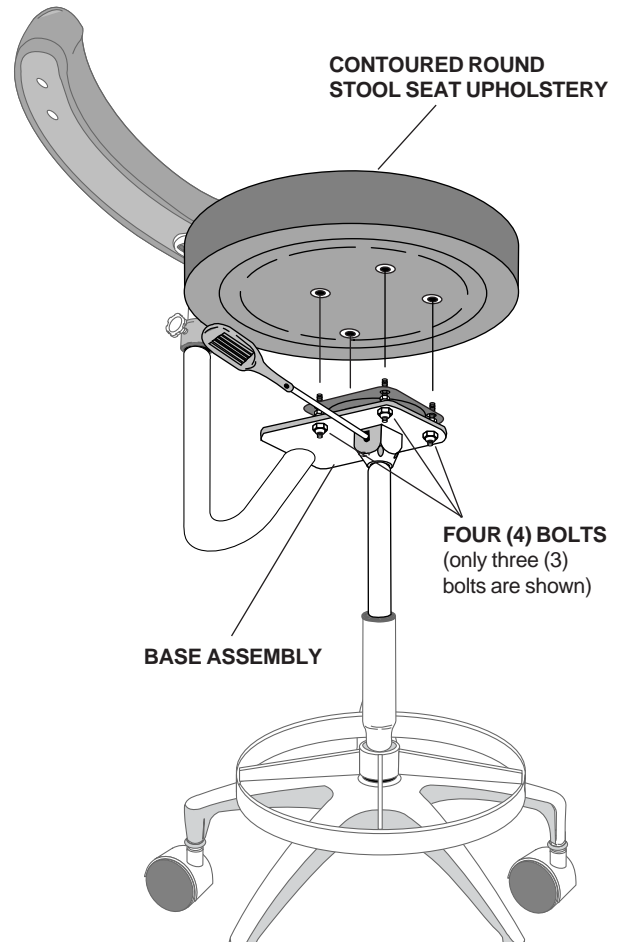

FIGURE 7
- Place the seat cushion on the adjustment mechanism of the stool base assembly (see Figure 7).